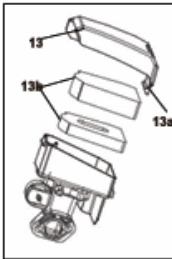

Fig. 28
2. Press the two latches (13a) to unlock the air filter cover (13), then remove the cover (Fig. 28).